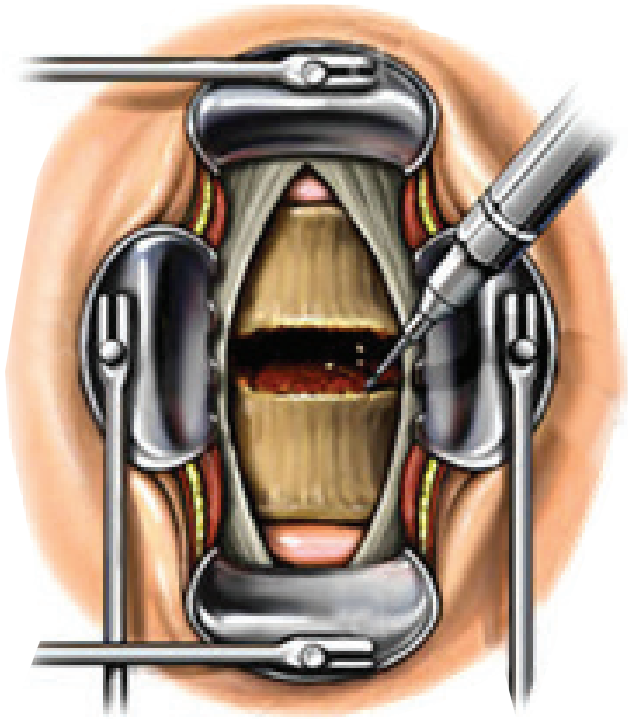

Figure 3
- Perform a complete discectomy using preferred surgical instruments. Pituitaries, curettes, and rongeurs may be used to remove the disc material and cartilage to expose the posterior longitudinal ligament and endplates. A high-speed burr may be used for removal of posterior osteophytes to achieve neural decompression (Figure 3). The posterior longitudinal ligament may be removed to access and remove any disc material that may be pressing on the neural elements.